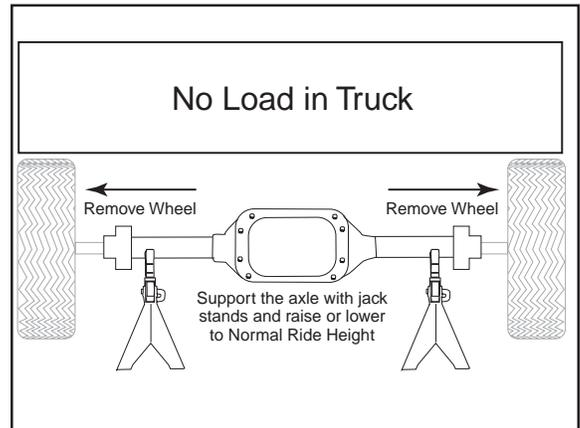

Figure 3
1. Raise the vehicle, remove the wheels, and obtain normal ride height (Figure 3).